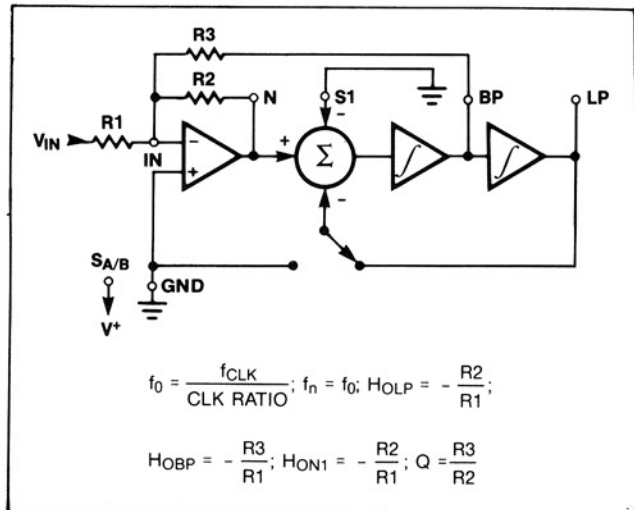

Figure 5. Mode 1: 2nd-Order Filter Providing Notch, Bandpass, Lowpass
The MAX265/266's filter sections can be configured in several basic “Modes” as selected by the  $S_{A/B}$ ,  $S1_A$ , and  $S1_B$  inputs and external resistors. Figures 5 through 20 show symbolic representations of the MAX265/266 filter modes. Only one 2nd-order section is shown in each case. The  $f_0$ ,  $f_N$  (notch),  $Q$ , and various output gains for each mode are shown in each figure. Advantages of various modes for each filter type are discussed in the following sections. Table 1 lists typical  $f_0$  and  $f_{CLK}$  ranges for each mode at various  $Q$ s.
**MODE 1, 1B, and 1C** (Figures 5, 7, 8) work well in 2nd-order notches. These modes have the highest bandwidth and are the most basic since the notch ( $f_N$ ) and  $f_0$  occur at the same point. In Mode 1,  $f_N$  is set only by the clock and the programmed  $f_{CLK}/f_0$  ratio. In Mode 1B and 1C,  $f_N$  can be tuned with resistors, but is still equal to  $f_0$ .